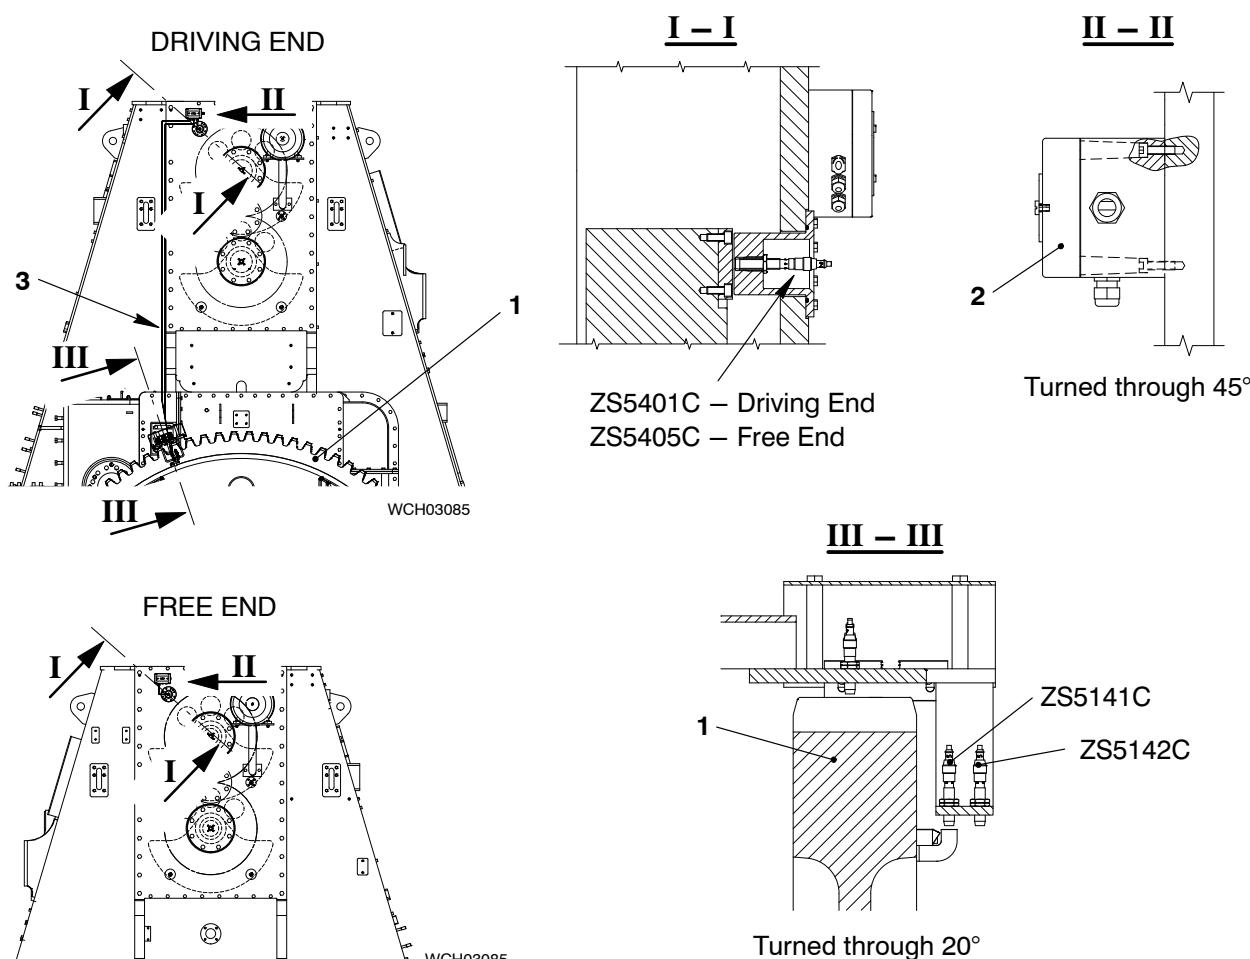

Fig. 3: Control System
- At the driving end, the proximity sensor ZS5401C senses the tooth movement of the balance weight. The signals are then transmitted through the terminal box 38.1 (2, Fig. 3) to the control unit.
- At the free end, the proximity sensor ZS5405C senses the tooth movement of the balance weight. The signals are then transmitted through the terminal box 38.1 (2) to the control unit.
- The proximity sensors (ZS5141C and ZS5142C) transmit the speed of the flywheel (1) and the TDC position along the cables (3) to the terminal box 38.1 (2) at the driving end. These signals then go to the control unit. Attached to the electric motor is a resolver, which sends the motor speed to the control system.